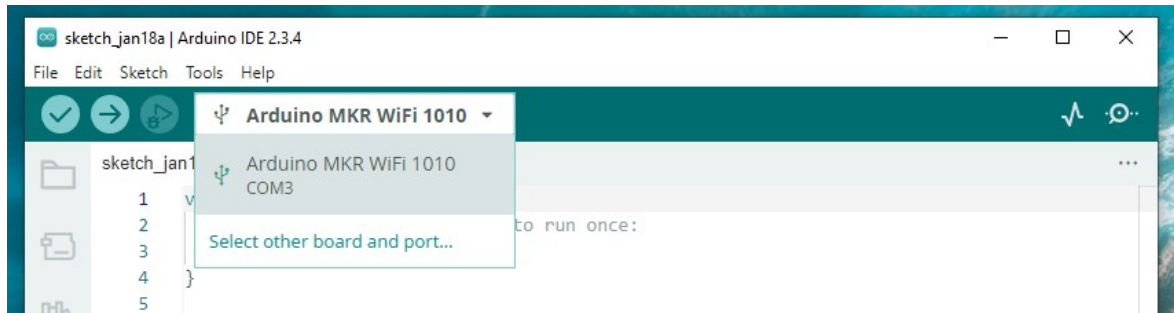

Figure 2 – Selecting the appropriate Arduino board
3. We then need to choose the Arduino MKR WiFi 1010 board in the board select menu (see Figure 2).